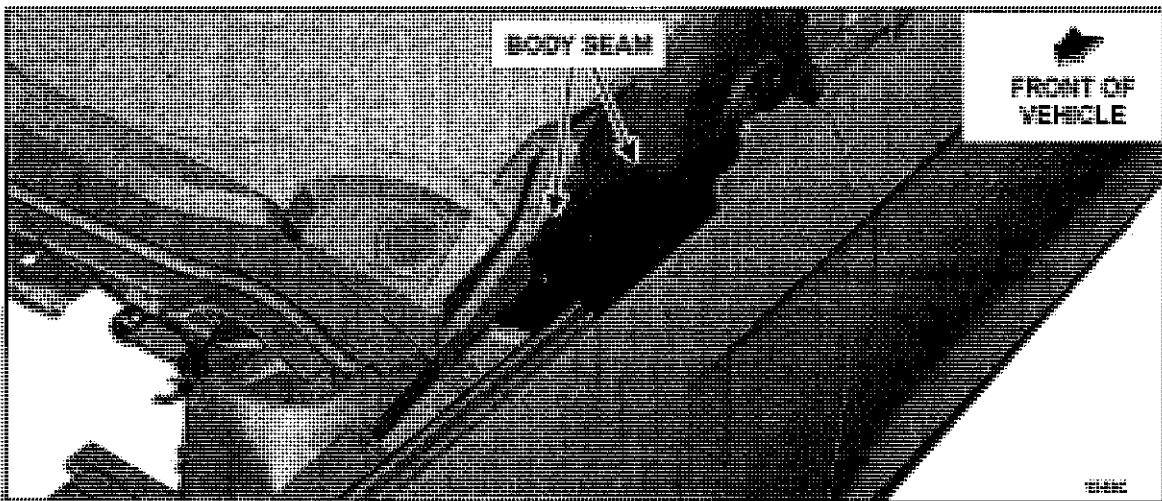

FIGURE 10
12. Use a flashlight to locate the body seam that runs behind and along the side of the LH and RH hood hinges. Apply a bead of sealer to the body seam. See Figures 10, 11 and 12.